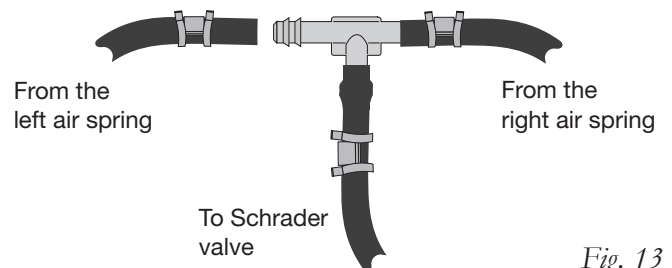

Fig. 13
4. Use this procedure (Fig. 13) for all air line connections: